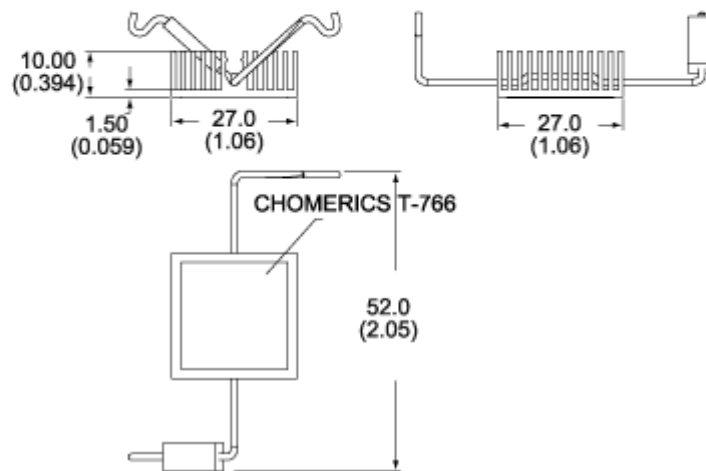
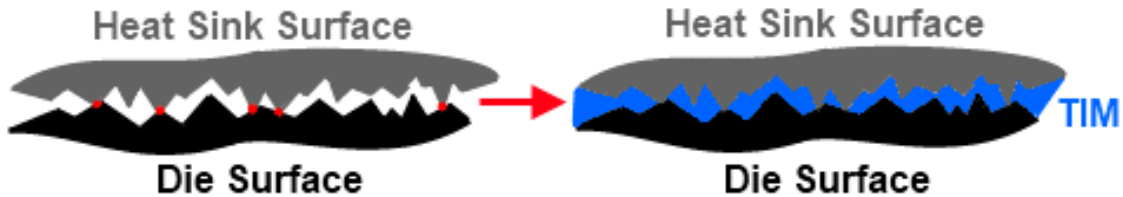

**Figure 7.2. 6.3 mm Tall Passive Heat Sink (Alpha Novatech, Inc. PN: Z19-6.3B)**
**Figure 7.3. 10 mm Tall Passive Heat Sink (AAVID Thermalloy PN: 374324B60023G)**
1. Max  $T_{case}$  is based on 27 x 27 x 10 mm Thermalloy heat sink as shown in Figure 7.3.
- 101.5 mm x 114.5 mm, 2s2p JEDEC board using 19 x 19 x 6.3 mm Alpha Novatech\* heat sink as shown in Figure 7.2.
- 101.5 mm x 114.5 mm, 2s2p JEDEC board using 27 x 27 x 10 mm Thermalloy\* heat sink as shown in Figure 7.3.
If required, the following extruded heat sinks are suggested for I347-AT4 thermal solutions. They can be seen as shown in Figure 7.2 and Figure 7.3 with their respective mechanical drawings.
- 19 mm x 19mm x 6.3 mm heat sink (Figure 7.2)
- 27 mm x 27 mm x 10 m heat sink (Figure 7.3)
**Note:** 19 x 19 x 6.3 mm Alpha Novatech HS in Figure 7.2.
**Note:** 27 x 27 10 mmmm Thermalloy HS in Figure 7.3.